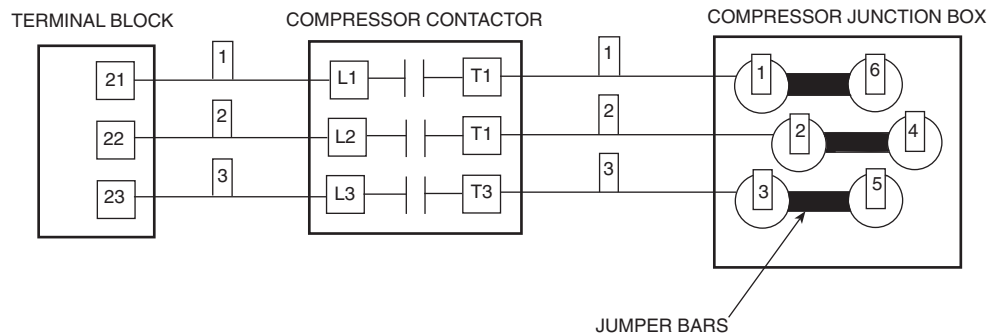

Fig. 5 — Across-the-Line (XL) Compressor Wiring
Wye-Delta vs Across-the-Line (XL) Starting Option — All 30HX chillers operating at voltages of 230-3-60, 208/230-3-60 or 230-3-50 (4, 5, or 8 at Position 12 in model number) are supplied with factory-installed Wye-Delta starters. All other voltage options can be ordered with either Wye-Delta or XL starting options. The XL starting method is the most cost effective and simply starts the compressor motor in a Delta configuration (the motors are designed for continuous operation in this configuration) using a single contactor. See Fig. 5. This is the simplest starting method to use and is ideal where starting current does not require limiting.